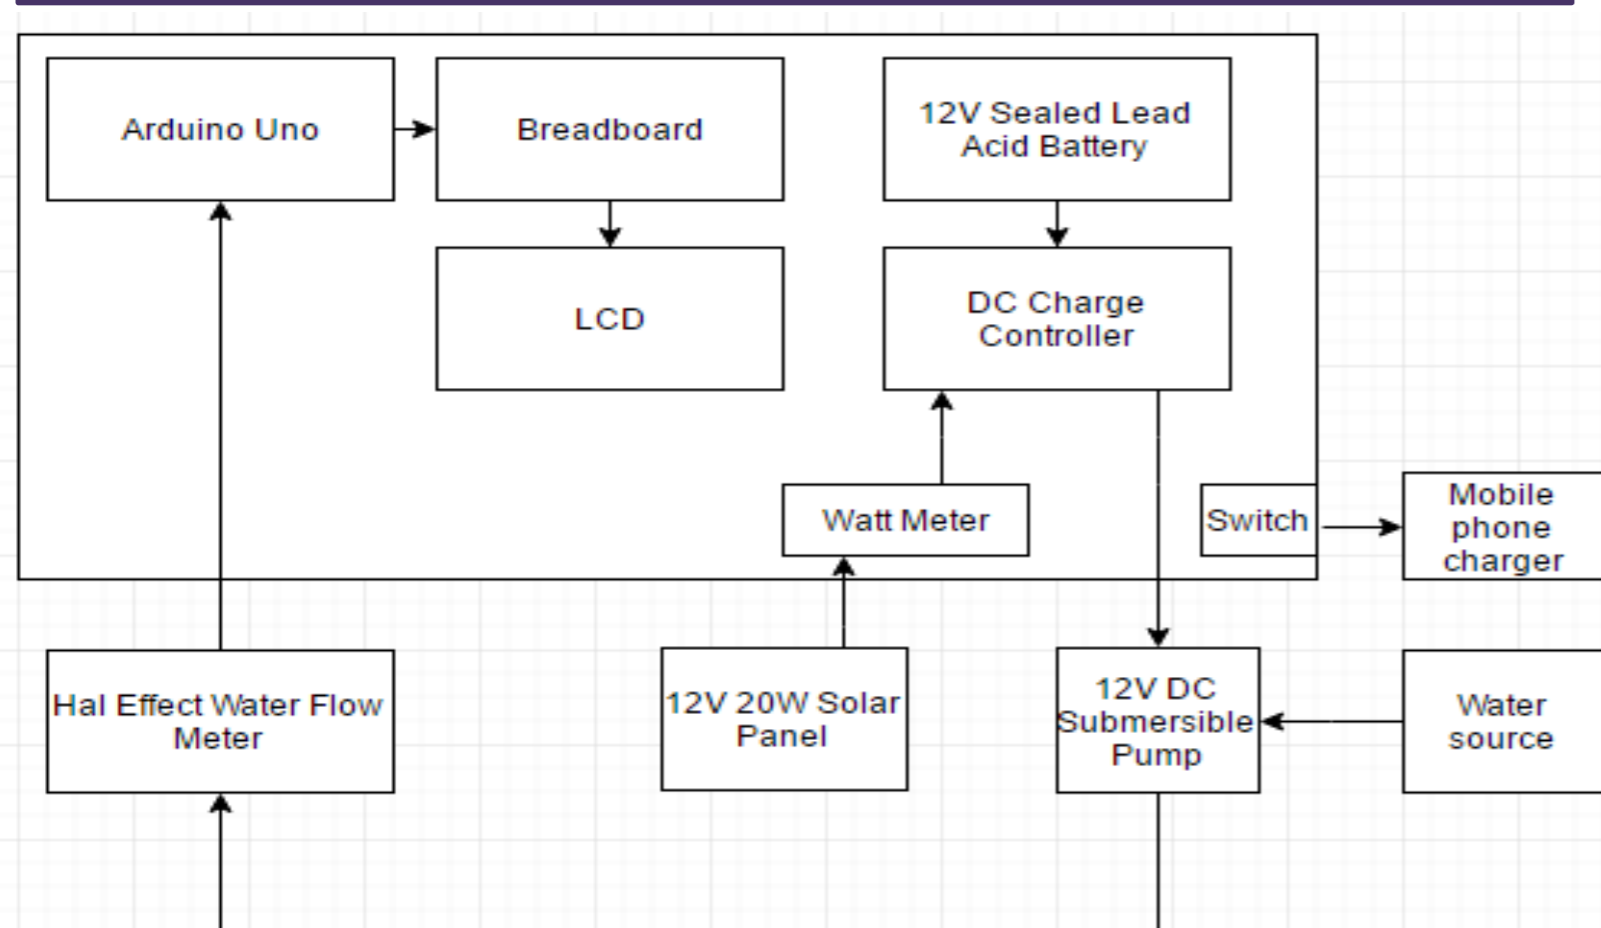

Figure 1, system diagram
- Develop a low cost solar powered water pump system, see figure 1.